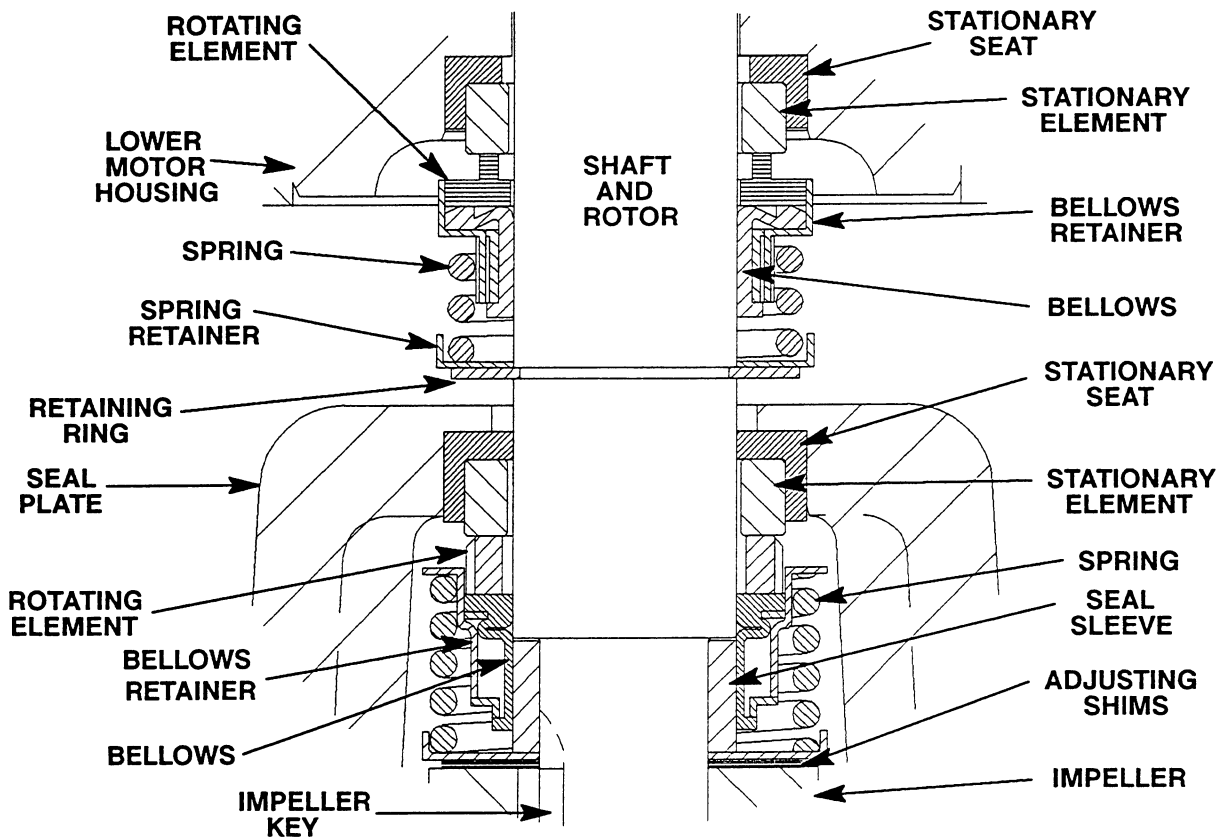

Figure E-2. 46512-057 (Lower) And 25271-866 (Upper) Seal Assemblies
Install the shaft seals as illustrated in Figure E-2.
Slide the seal spring over the shaft and bellows retainer, and install the spring retainer (72). Install the seal retaining ring (5). See Figure E-2 for proper order of seal assembly.
Slide the seal spring over the shaft and bellows retainer. Install the spring retainer. See Figure E-2 for proper order of seal assembly.